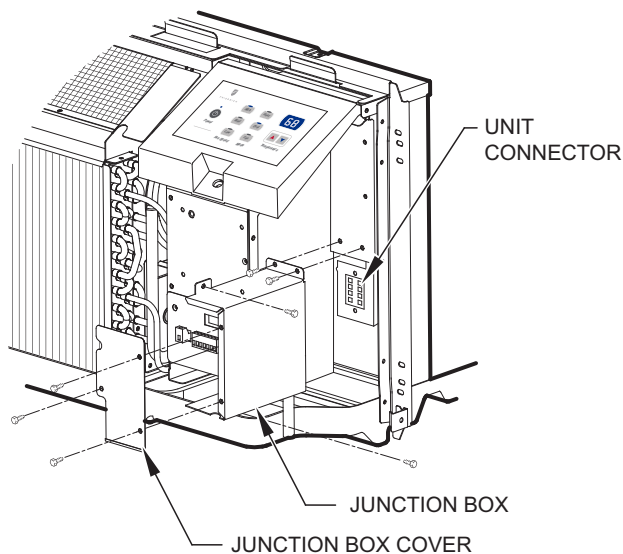

Figure E.4.1 (Junction Box)
- Remove junction box cover by removing three screws from front. Remove junction box by taking out top, rear and side screws. See Figure E.4.1.